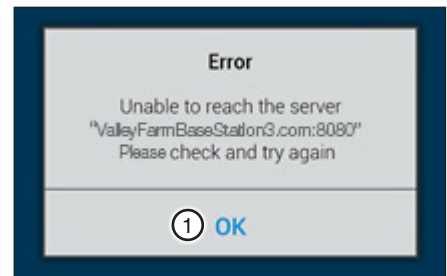

Figure 5-3 1. OK
•If unable to connect, an Error message displays (see Figure 5-3). Check for the following: